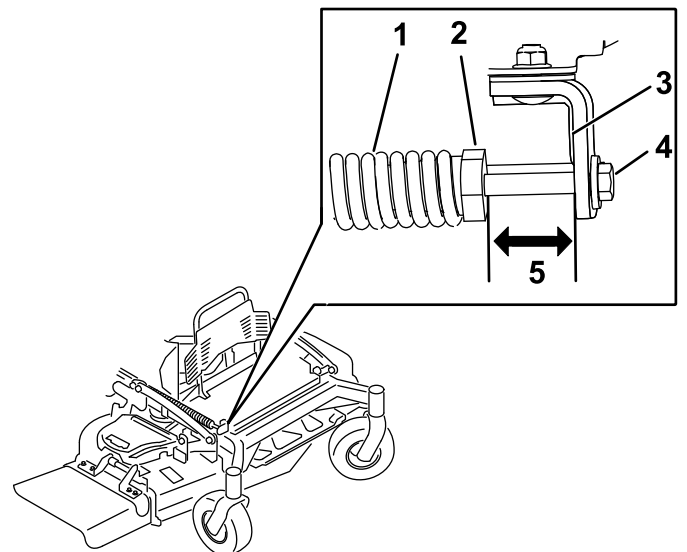

Figure 86
2. Check the distance between the spring nut and the rear side of the welded mount bracket (Figure 86).
3. Ensure that the length is between 51mm (2 inches) for 48/52in decks, and 38mm (1.5 inches) for 60in decks as shown in Figure 86.
4. If needed, adjust the distance by adjusting the bolt on the front of the mount bracket (Figure 86).